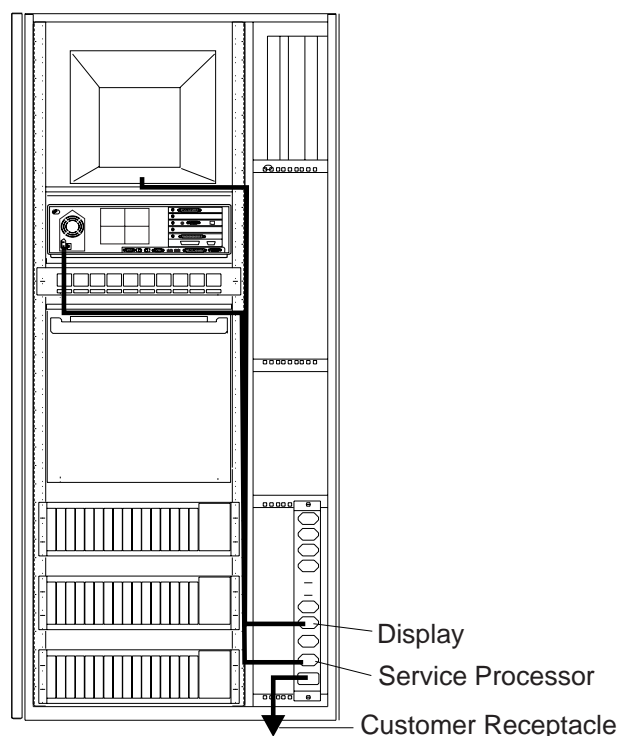

Figure 1-12. Power Cords Connection
16. ____ Route and connect the power cords (PN 58G5783) from the display and service processor unit to the ac outlet distribution box as shown in Figure 1-12. Secure these cables using tie clamps along the frame, then go to step 18 on page 1-18.